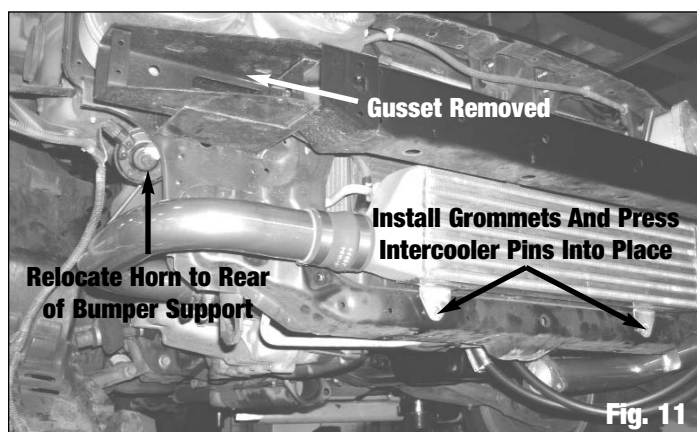

Fig. 11
2. Remove the bumper beam gusset on passenger side (black ABS plastic) to access the bumper bolts (**See Fig. 11**). Remove the outer bumper bolt (under gusset, goes through to the inner fender) and replace it with the supplied 25mm long bolt. Using an 8mm nut, attach the horn to this new bolt (**See Fig. 11**). Replace the bumper beam gusset.
5. Install the intercooler grommets into the holes in the lower radiator support as shown (**See Fig. 11**). Using a small amount of silicone-based spray lubricant on the grommets will make installation easier. Mount the intercooler by pressing the pins on the lower edge of intercooler into the grommets (**See Fig. 11**). Attach intercooler brace to center radiator support using supplied 6mm x 1.0, black oxide, serrated flange bolt and nut, and 1/4" zinc plated washer.